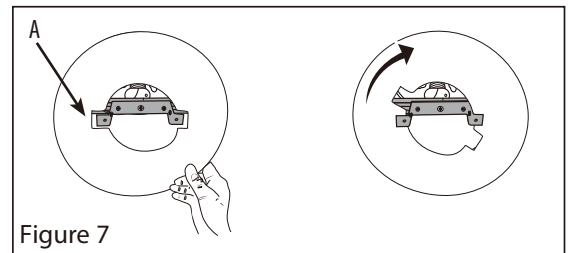

Figure 7
8. Raise the metal cover plate (A), rotate it and make sure the mounting bracket holds the metal cover plate in place (Figure 7).